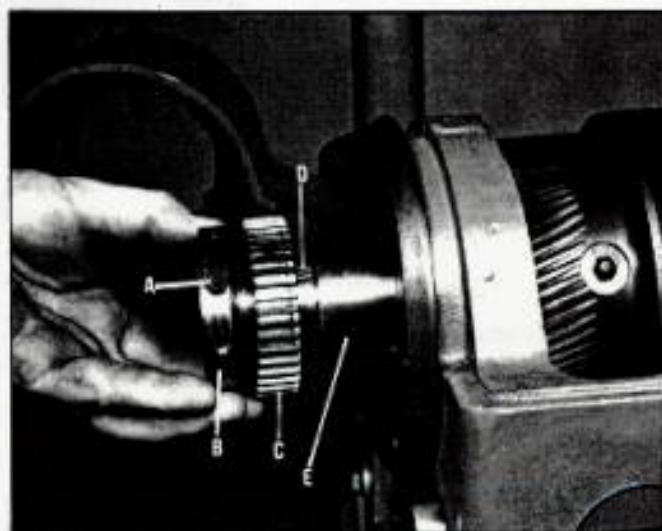

Fig. 36.
9. Loosen set screw (A) Fig. 36, and remove spindle nut (B). CAUTION: Care should be taken not to lose brass plug below set screw (A). Remove gear (C), key (D), and spacer (E) Fig. 36.